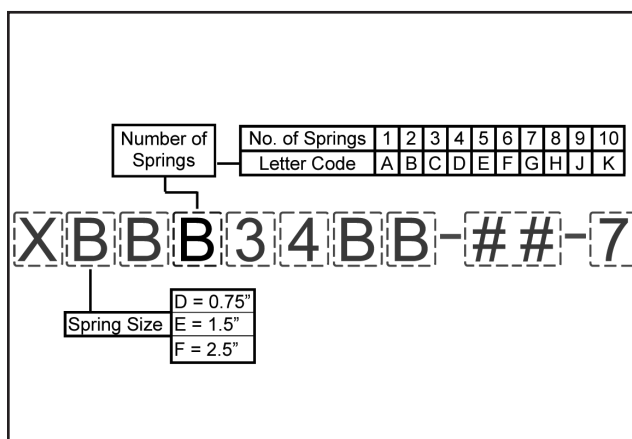

Figure 13-3
2. Begin with 2 setup turns. Warning: Add no more than 1 setup turn per spring without consulting the factory. See **Figure 13-3**.